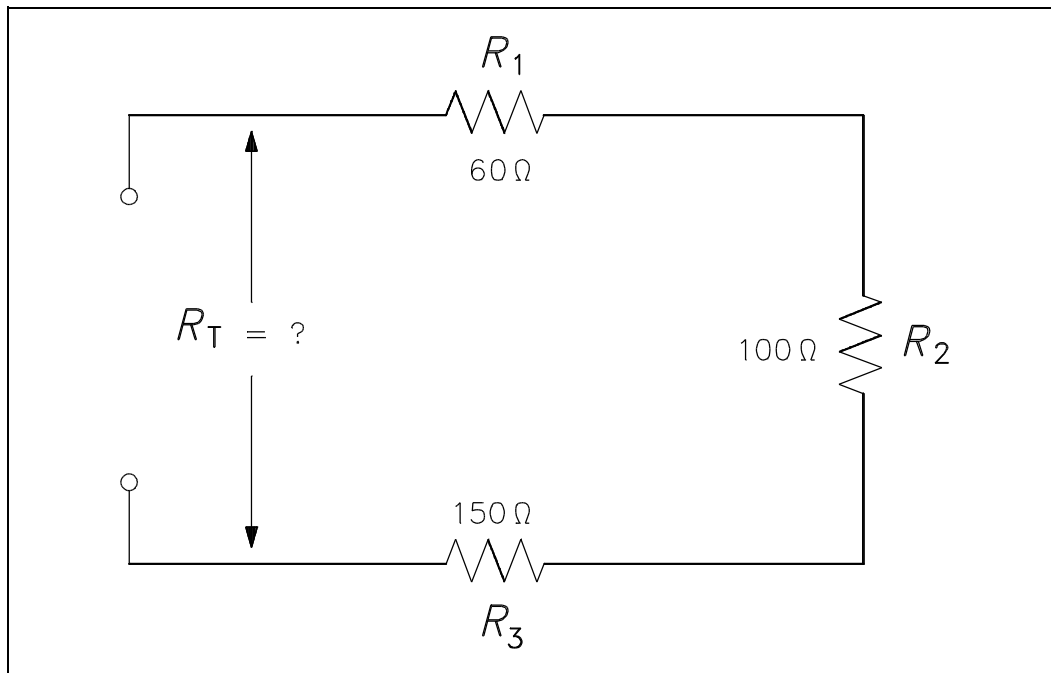

Figure 18 Resistance in a Series Circuit
**Example:**      A series circuit has a 60Ω, a 100Ω, and a 150Ω resistor in series (Figure 18).